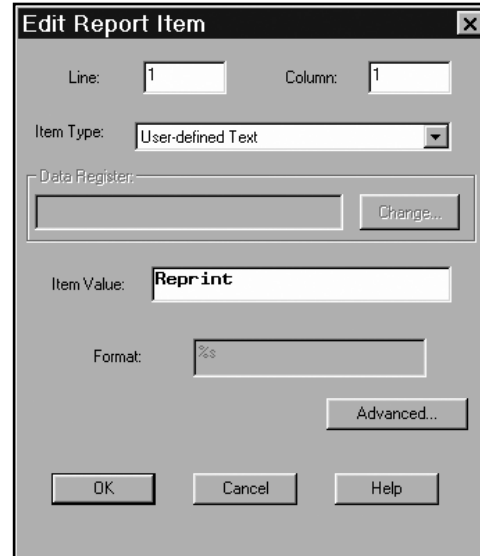

Figure 22
- In the boxes labeled "Line" and "Column," indicate the position of the new report item. In Figure 22, the text "Reprint" will appear in Line 1, Column 1 – the upper left-hand corner of the report. There are 60 lines and 80 columns on a single page of an AccuMate report.
- Next, select "Item Type" from the pull-down menu shown in Figure 22. There are three options: "Run/Program Data Value," "Run/Program Data Description," and "User-defined Text." More about these options appears later in this subsection.
To access the Report Editor's advanced features, choose *Edit\Insert New Item...* from the AccuMate tool bar. A dialog box, similar to that shown in *Figure 22*, will appear. Use the mouse to click on the "Advanced" button in the lower right-hand corner of the screen to obtain the dialog box shown in *Figure 23*.